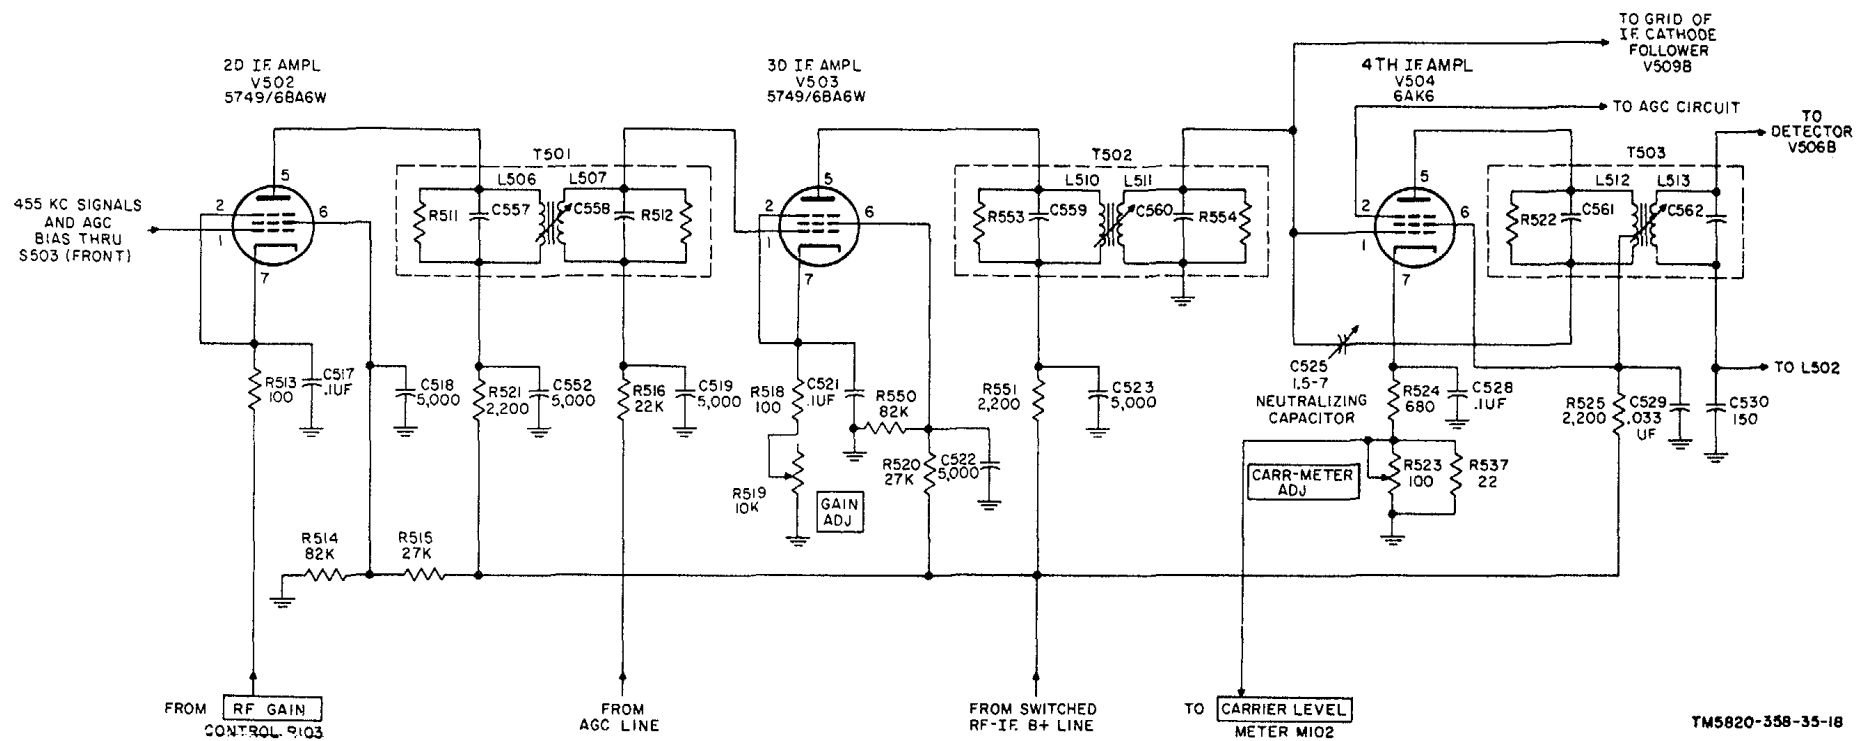

Figure 16. Second, third, fourth if. amplifiers V502 through V504, simplified schematic diagram.
(fig. 16)
a. Detector V506B is connected as a half-wave diode by connecting the control grid and plate together. The secondary winding (L513) of T503 (fig. 16) feeds the signal from fourth if. amplifier V504 to the detector. The diode load consists of resistors R527 and R526. To connect these load resistors to the stage, the jumper at DIODE LOAD terminals 14 and 15 on TB103 must be in place. Capacitor C530 and choke coil L502 are an if. filter used to remove if. signals from the detected audio.